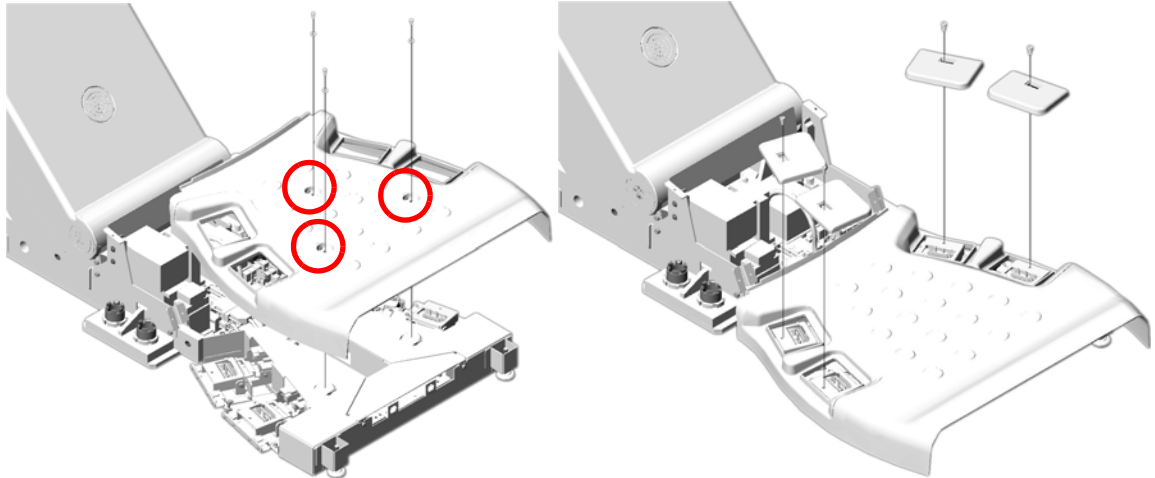

Figure 4-13 Footswitch Cover Installation
- 5.) Install the footswitch cover using three (3) screws (see Figure 4-13).